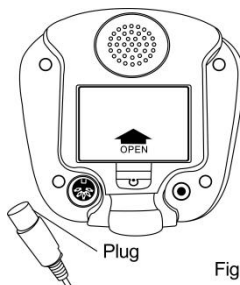

Fig.5
13. end (see Fig.5). Note do not pull the cable, pull the plug.